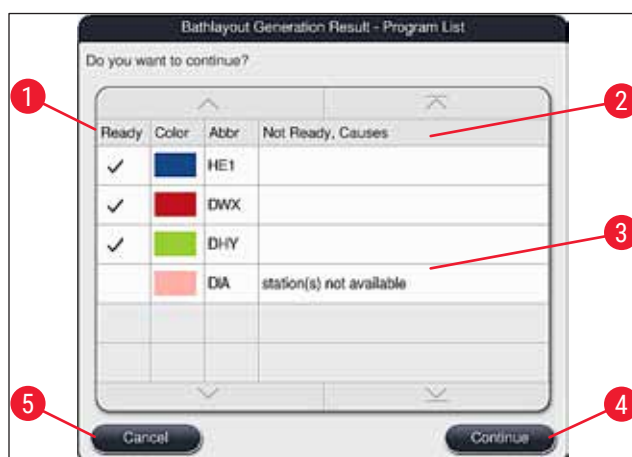

Fig. 51
- If more programs have been selected than could be integrated into the bathlayout, the user is informed by the **Bathlayout Generation Result** (→ "Fig. 51") display. Successfully integrated programs are marked with a check mark in the **Ready** (→ "Fig. 51-1") column.